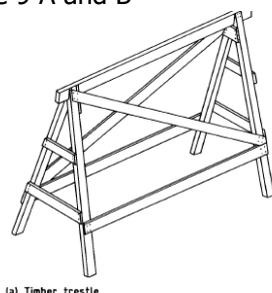

Figure 9 — Trestles (see 3.51 and 10.16)
- Figure 9 A and B
- Timber trestles shall be constructed generally in accordance with figure 9(A) and steel trestles shall be constructed generally in accordance with figure 9(b). Timber trestles shall not exceed 1,5 m in height. Steel trestles shall have an extended height not exceeding 2,35 m and a closed height not less than 1,30 m.